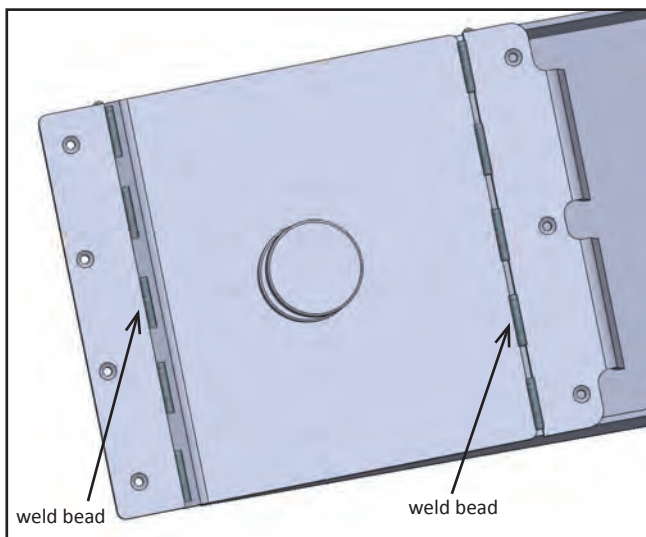

Figure 7
13. Weld the trimmed extension plates to the king pin plate, making certain that the Universal Capture Plate can be refastened flush against the bottom of the king pin plate. Bend the rear tabs against the bottom angle of the king pin box as needed. (see Figure 7).